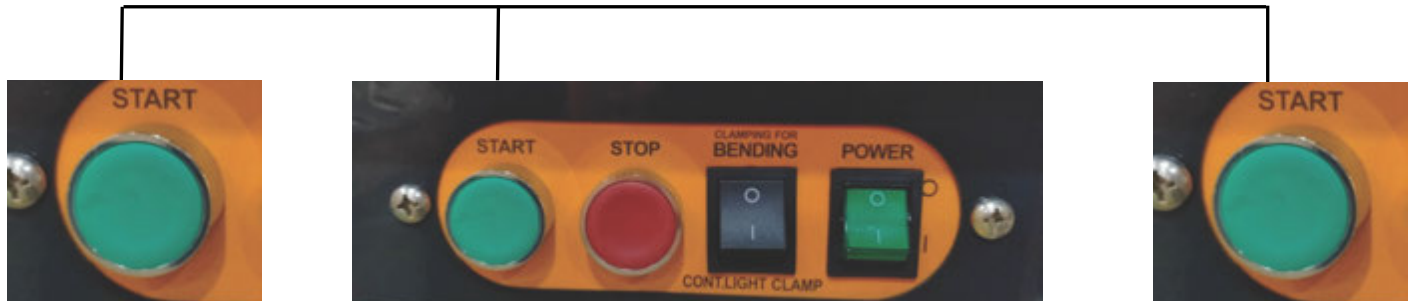

figure 8
- Switch the toggle switch up to the “BEND position and step down on the footswitch or press any one of the three GREEN start switches to apply the pre-clamping force. (See fig. 8)